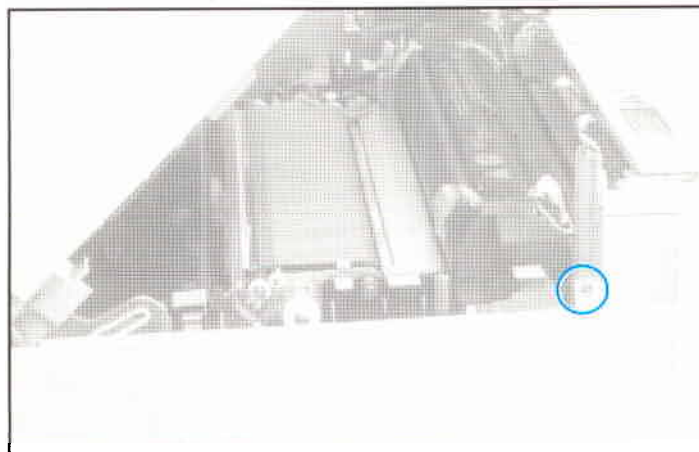

Figure 6-8 Left Side Cover Screw
3. Open the Top Cover. From the left front side, remove (1) screw shown in Figure 6-8.